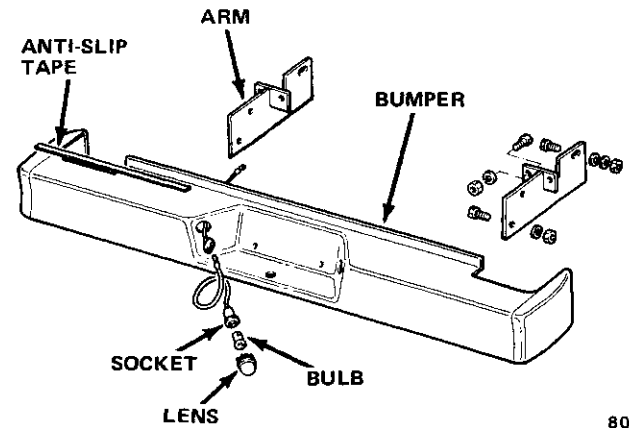

Fig. 3F-19 Rear Step Bumper—Truck Models
(1) Disconnect license lamp wiring (fig. 3F-19) from vehicle wiring.
(2) Remove nuts, washers and bolts attaching step bumper to arms.
(3) Remove step bumper from arms.
(4) Remove nuts, washers and bolts attaching arms to vehicle frame. Remove arms from vehicle.